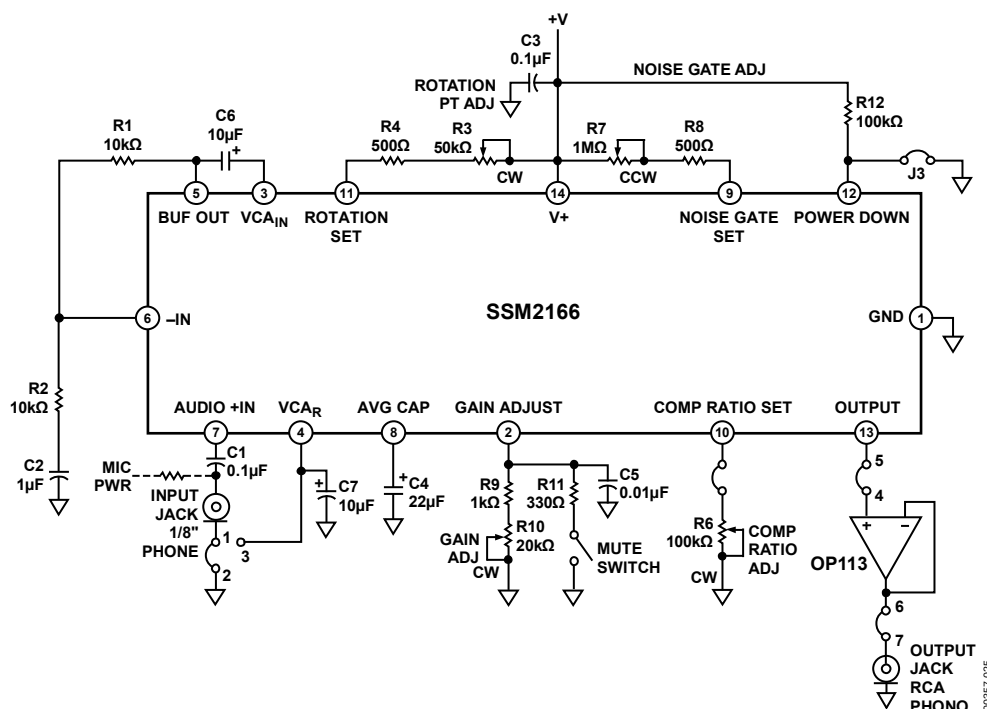
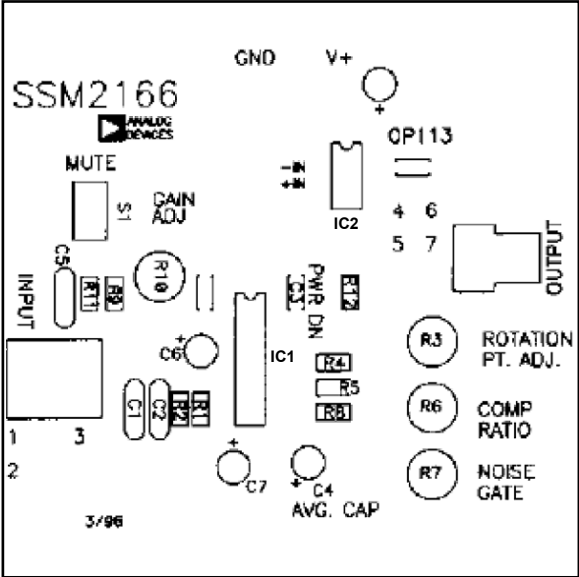
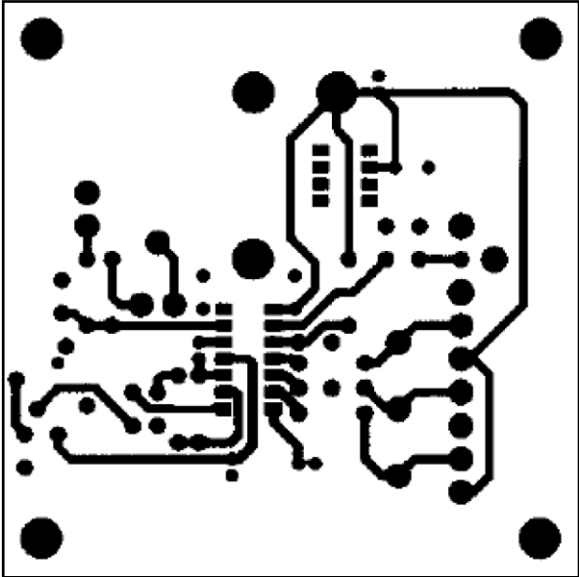
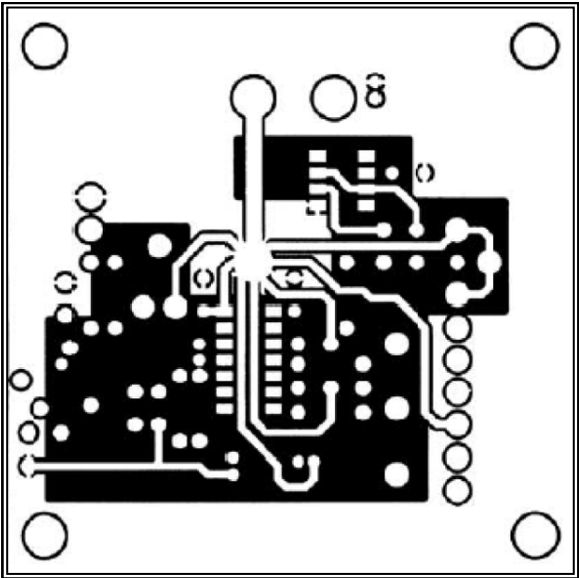

Figure 26. Evaluation Board Schematic
Figure 27. Evaluation Board Topside Silkscreen (Not to Scale)
Figure 29. Evaluation Board Backside Metallization (Not to Scale)
Figure 28. Evaluation Board Topside Metallization (Not to Scale)
The gain of the VCA at the rotation point is set by the value of a resistor, R_{GAIN} , connected between Pin 2 and GND. The relationship between the VCA gain and R_{GAIN} is shown in Figure 6. The AGC range can be as high as 60 dB. The VCA_{IN} pin (Pin 3) is the non-inverting input terminal to the VCA. The inverting input of the VCA is available at the VCA_R pin (Pin 4) and exhibits an input impedance of 1 k Ω , as well. As a result, this pin can be used for differential inputs or for the elimination of grounding problems by connecting a capacitor whose value equals that used in series with the VCA_{IN} pin to ground (see Figure 26 for more details).
Changing the scaling of the control signal fed to the VCA causes a change in the circuit compression ratio, r . This effect is shown in Figure 20. The compression ratio can be set by connecting a resistor between the COMP RATIO SET pin (Pin 10) and GND. Lowering R_{COMP} gives smaller compression ratios as shown in Figure 19, with values of approximately 17 k Ω or less resulting in a compression ratio of 1:1. AGC performance is achieved with compression ratios between 2:1 and 15:1 and is dependent on the application. A 100 k Ω potentiometer can be used to allow this parameter to be adjusted. On the evaluation board (see Figure 26), an optional resistor can be used to set the compression equal to 1:1 when the wiper of the potentiometer is at its full counterclockwise (CCW) position.
- A single-point (star) ground implementation is recommended in addition to maintaining short lead lengths and PCB runs. The evaluation board layout shown in Figure 27, Figure 28, and Figure 29 demonstrates the single-point grounding scheme. In applications where an analog ground and a digital ground are available, the SSM2166 and its surrounding circuitry should be connected to the analog ground of the system. Because of these recommendations, wire-wrap board connections and grounding implementations should be avoided.
A schematic diagram of the SSM2166 evaluation board is illustrated in Figure 26. As a design aid, the layouts for the topside silkscreen and the topside and backside metallization layers are shown in Figure 27, Figure 28, and Figure 29. Although not shown to scale, the finished dimension of the evaluation board is 3.5 inches by 3.5 inches and comes complete with pin sockets and a sample of the SSM2166.
Signal sources are connected to the SSM2166 through a 1/8-inch phone jack where a 0.1 μ F capacitor couples the input signal to the AUDIO +IN pin (Pin 7). As shown in Figure 26 and in microphone applications, the phone jack shield can be optionally connected to the ground plane of the board (Jumper J1 inserted into the board socket for Pin 1 and Pin 2) or to the VCA_R input at Pin 4 (J1 inserted into the board socket for Pin 1 and Pin 3). If the signal source is a waveform or function generator, the phone jack shield should be connected to ground.
To illustrate how easy it is to program the SSM2166, a practical example is provided. The SSM2166 was used to interface an electret-type microphone to a postamplifier. The evaluation board or the circuit configuration shown in Figure 26 can be used. The signal from the microphone was measured under actual conditions to vary from 1 mV to 15 mV. The postamplifier requires no more than 500 mV at its input. The required gain from the SSM2166 is, therefore
When building a breadboard, keep the leads to Pin 3, Pin 4, and Pin 5 short. An evaluation board is available from an Analog Devices sales representative. The R and C designations refer to the demonstration board schematic of Figure 26 and the parts list in Table 7.